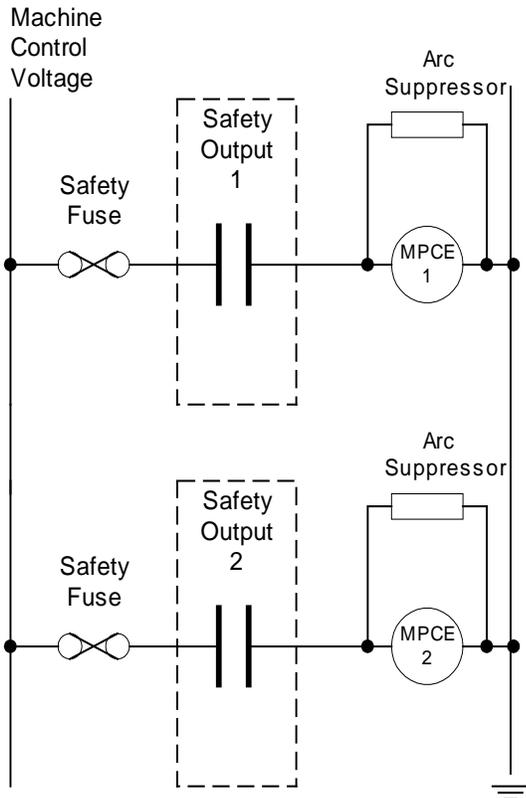

Figure 24 - Interfacing a Machine with Dual Identical MPCEs
- High risk machines - These should have 2 MPCEs. In some countries, it is customary for both MPCEs to operate in the same mode. In this case, each of the normally open (NO) outputs controls a single MPCE. See **Figure 24** for an illustration of the type of interface. Any additional output contacts can be used as a monitor, e.g. as an input to a PLC.